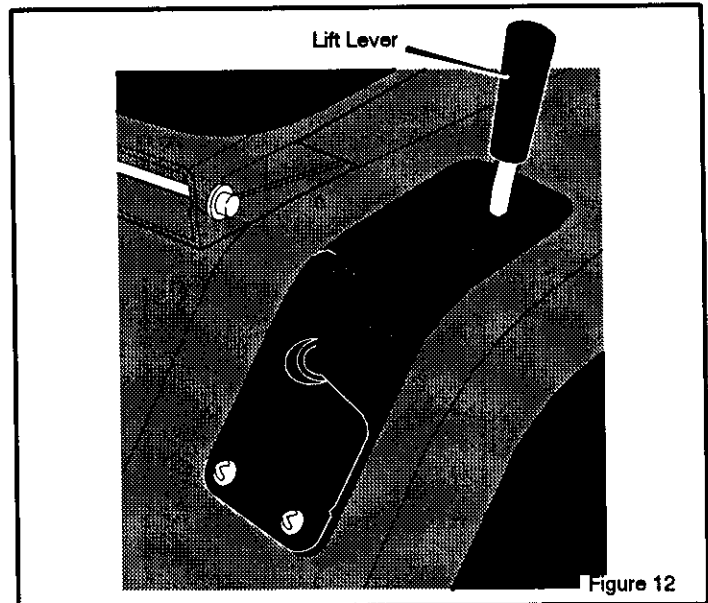

Figure 12
1. Move the lift lever forward to lower the mower housing and back to raise the mower housing (Figure 12).